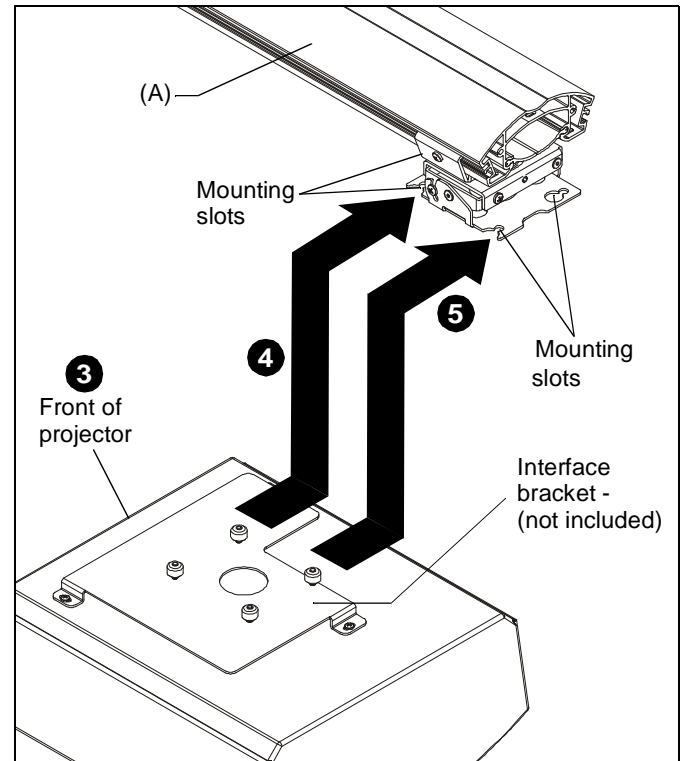

Figure 13
3. Orient projector with attached bracket so that front of projector lines up with front of projector arm. (See Figure 13)
4. Lift projector so that screws with thumb nuts (V) in interface bracket are aligned with mounting slots in projector arm base. (See Figure 13)
5. Slide projector with interface bracket onto mounting slots in projector arm base until screws are seated against the back of mounting slots. (See Figure 13)